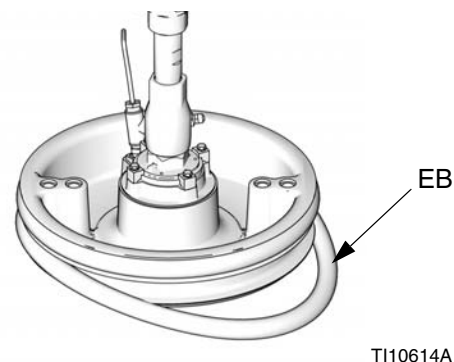

FIG. 22
1. Using a wooden or plastic tool to prevent damage to the wiper (EB), clean all material from seal grooves.
2. *Working from the bottom*, angle one wiper (EB) over back of platen. See FIG. 22.
3. Insert wiper (EB) in top groove and run front of wiper into groove.
4. Insert second wiper (EB) in lower groove and run front of wiper into groove.